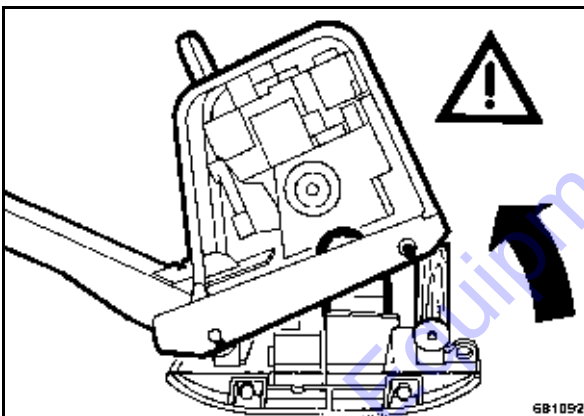

Fig. 52
- Raise the engine carrier plate at the front and support it (Fig. 52).